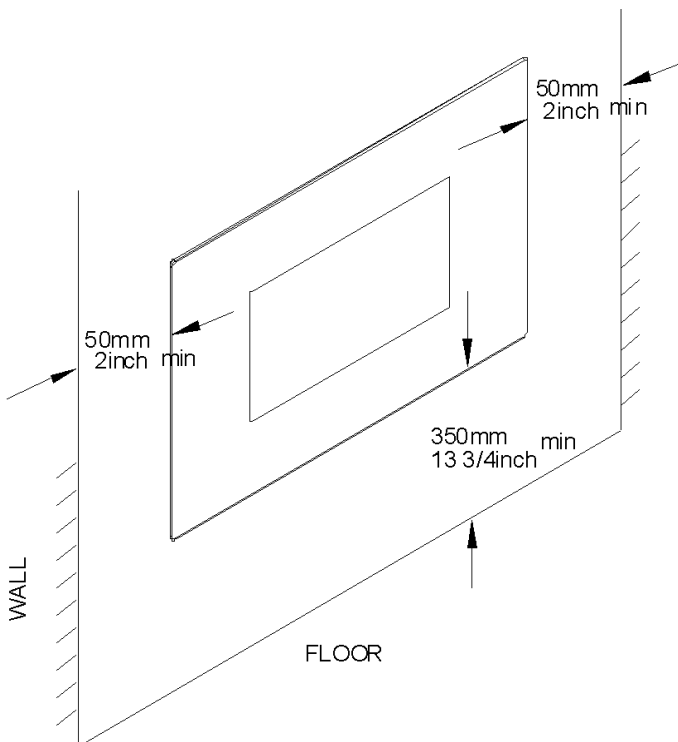

Fig. 1
24. See directions in Figure 1.